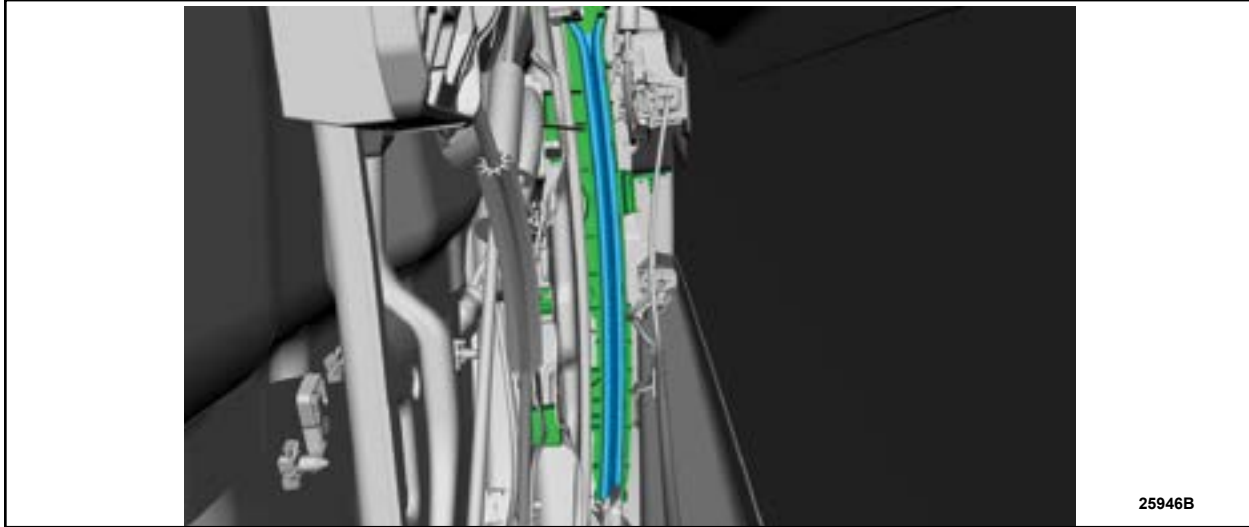

FIGURE 2
4. Remove the LH and RH rear lower rubber window glass run. See Figure 2.